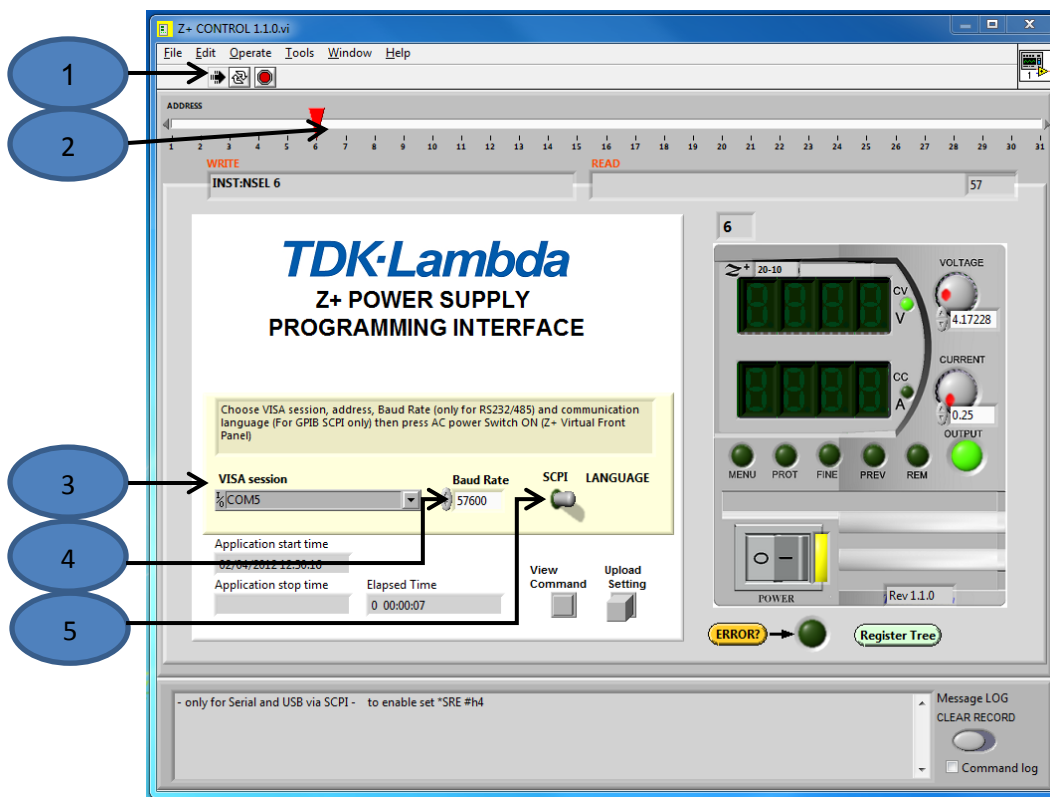

Fig 8
2. Press **RUN** button (1) to run application. Refer to Fig 8.
- a. Unit Address (2)
- b. Port (VISA session - COM port for RS232/RS485 and USB), GPIB::x::INSTR for GPIB (3) and TCPIP::x::INSTR for LAN (Refer to chapter E). Select “Refresh” to update connection.
- c. Baud Rate for RS232/485 and USB (4)
- d. Communication Language (5)